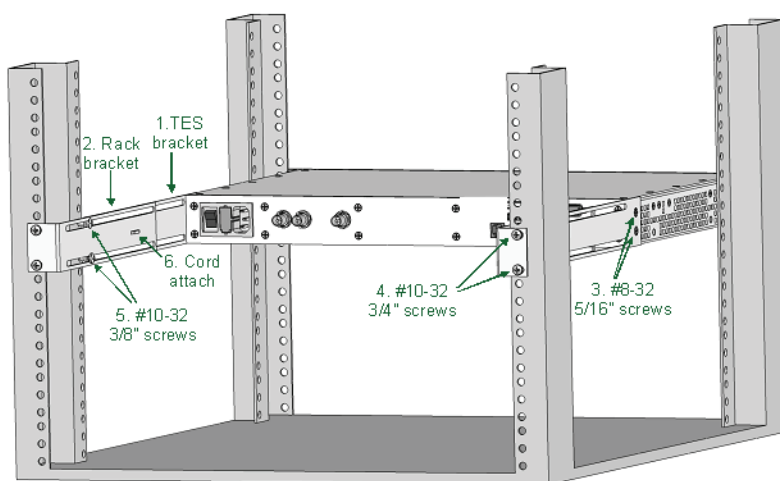

Figure 3.1 TES3 and TES5 Rear View — Rack-mounting Detail
This section describes how to mount the TES3 and TES5 in the rack. In using these instructions, consult **Figure 3.1**. Note that the TES3 and TES5 should be attached to both the front and rear of the rack; because of the weight of the potentially large number of cables connected to the rear of the TES3 and TES5, rear rack mounting is strongly advised.
1. Attach the rear TES brackets (41-10543-01) to both sides of the chassis using the mounting holes near the rear of the TES. Use the #8-32 flat-head screws, and insert them through the countersunk holes in the bracket into the mounting holes on the TES. See item 3 in **Figure 3.1**. Install four nut clips to the front of the rack, and attach the TES front panel to these clips, using four 3/4" #10-32 screws.
4. Attach the two rear rack brackets (41-10544-01) to the nut clips installed in the preceding step, using two 3/4" #10-32 screws for each bracket. See item 4 in **Figure 3.1**. Before tightening the screws, ensure that these brackets contact the inner side of the brackets mounted to the TES; that is, they should be closer to the center of the rack than the ones on the TES. The slots in these brackets should also be approximately aligned with the screw holes in the TES brackets.
7. Insert a tie-wrap through the strain relief bridge on the rack bracket near the TES power entry module; see item 6 in **Figure 3.1**. Pass the tie-wrap around the power cord and tighten it to prevent the power cord from being inadvertently pulled out of the TES.